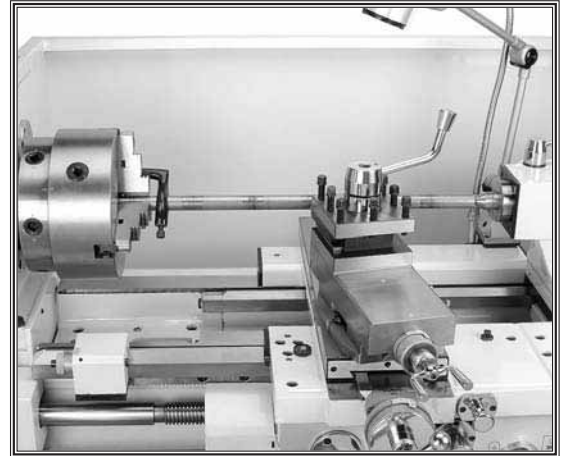

Figure 40. Checking tailstock alignment.
5. Attach a lathe eccentric to the bar stock and mount the bar stock between the centers (see **Figure 40**).